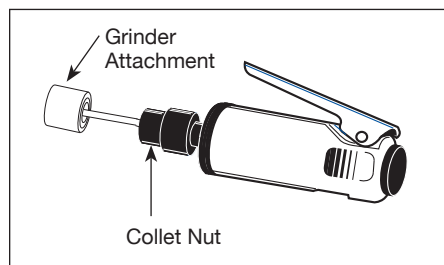

Figure 2
1. Insert stem of grinder attachment into collet opening (See Figure 2). Make sure stem is fully inserted.